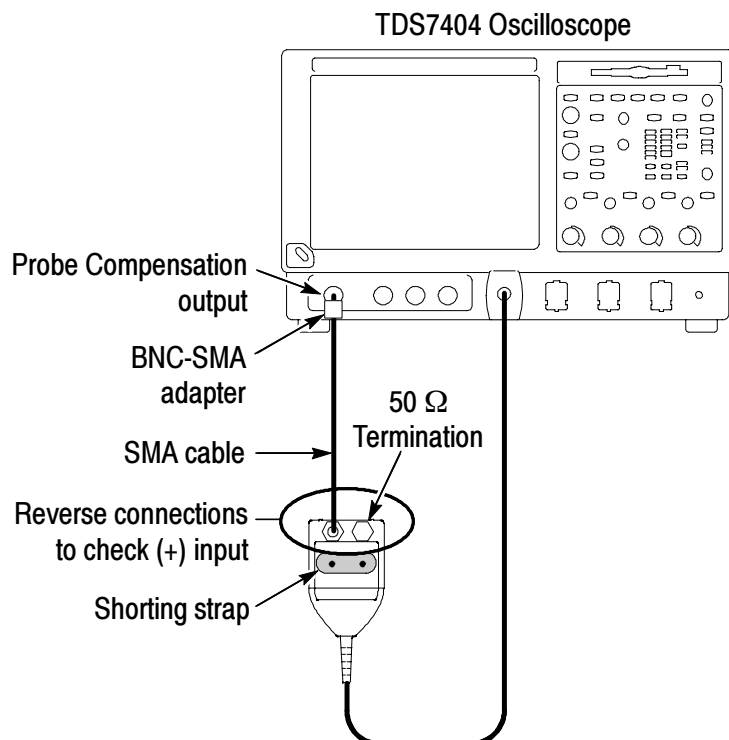

Figure 4: Probe signal check setup
Before using your probe, you should perform a functional check on your probe. Figure 4 illustrates a typical setup using the PROBE COMPENSATION output on the front panel of the oscilloscope.
4. Connect the SMA cable from the PROBE COMPENSATION connector on the oscilloscope to the (+) SMA probe input. Leave a 50 Ω termination on the (-) SMA probe input. The test setup is shown in Figure 4 on page 10, except the SMA inputs are reversed.